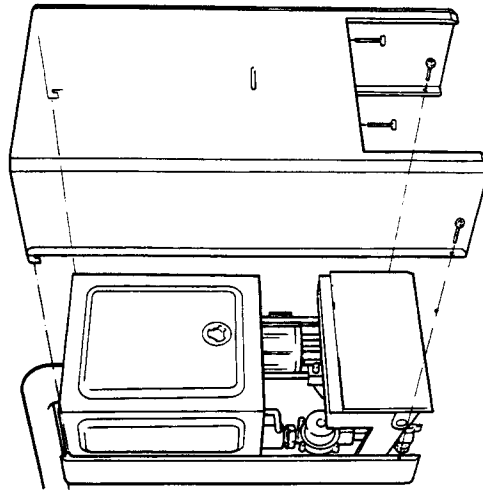

Fig. 26
6.15.3 Refixing the Front Cover (fig. 26)
6.15.5 Slide the casing downwards to fully engage the hooks and to align the bottom fixing holes. Replace the four case retaining screws. (fig. 26).